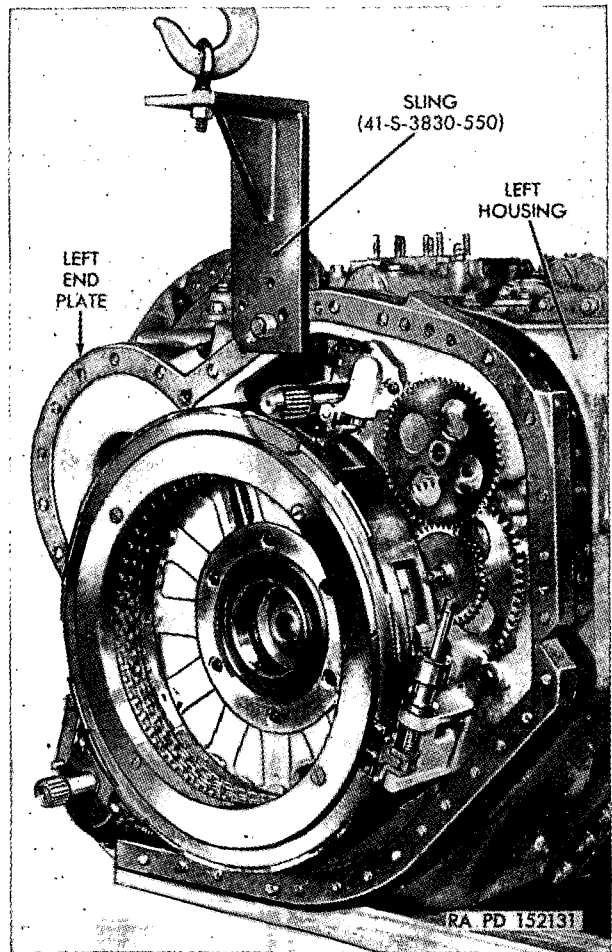

Figure 392. Installing left end plate.
- (1) Check to see that seven "O" ring gaskets are in place on the left housing split line. Apply sealing compound to the right split line of the left end plate. Attach the lifting sling (41-S-3830-550) to the left end plate. Pack grease around the two hook-type seal rings in the lock-up clutch housing and center them in their grooves.
- (2) Install the left end plate (fig. 392), rotating the input gearing to allow the entry of the hook-type seal rings into the end plate bore. After drawing up the left end plate flush-tight with the nuts and washers, remove them.